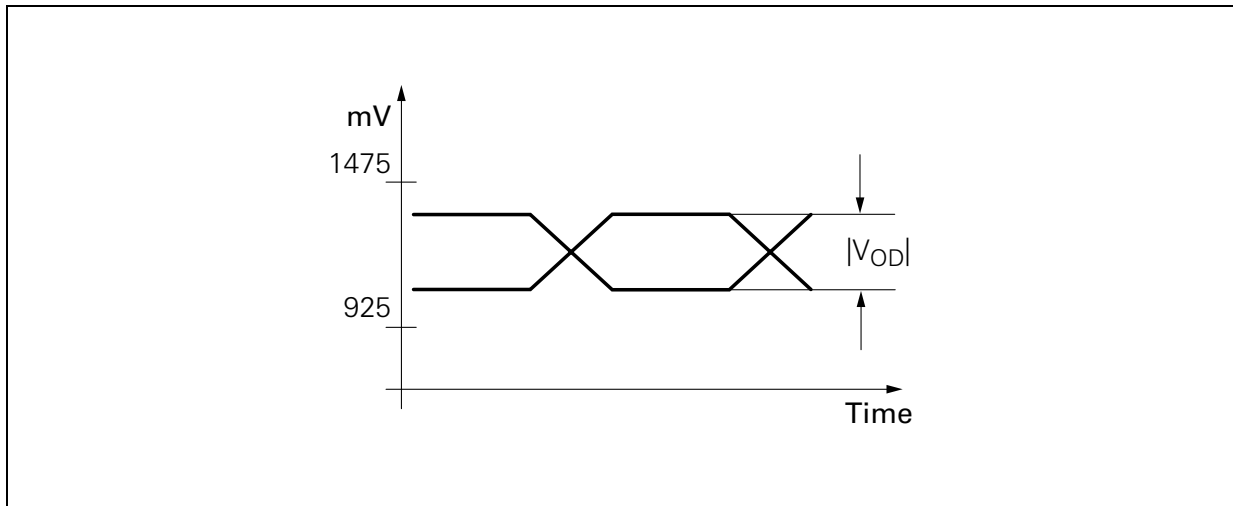

Figure 8 Output Level Diagram
1) Level Diagram: see **Figure 8**